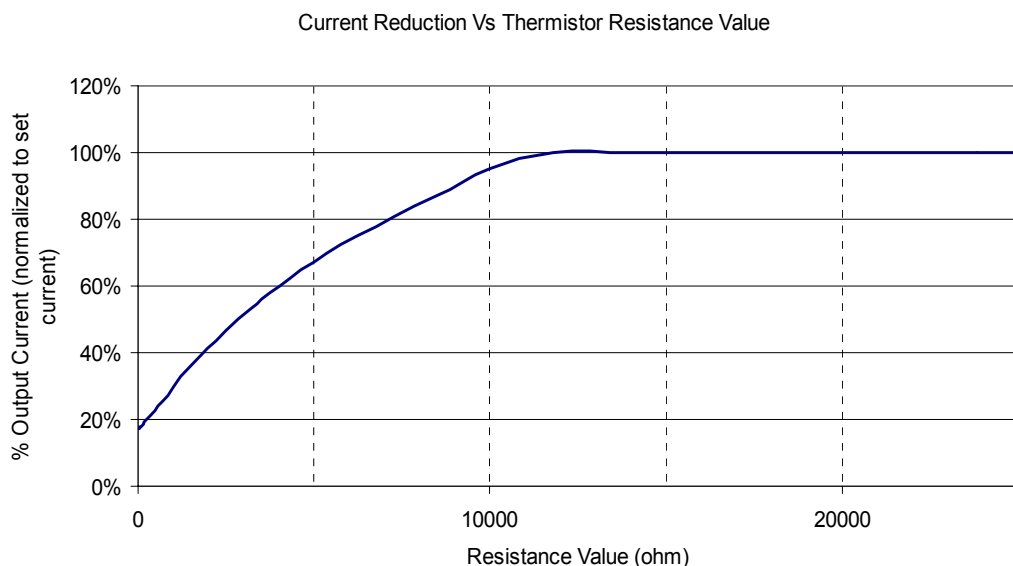
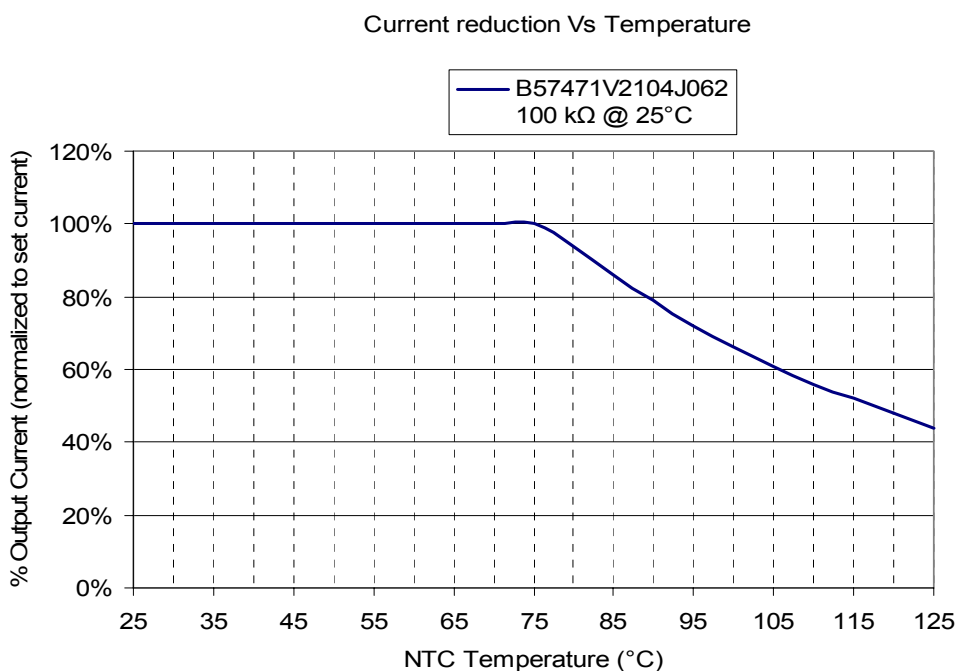
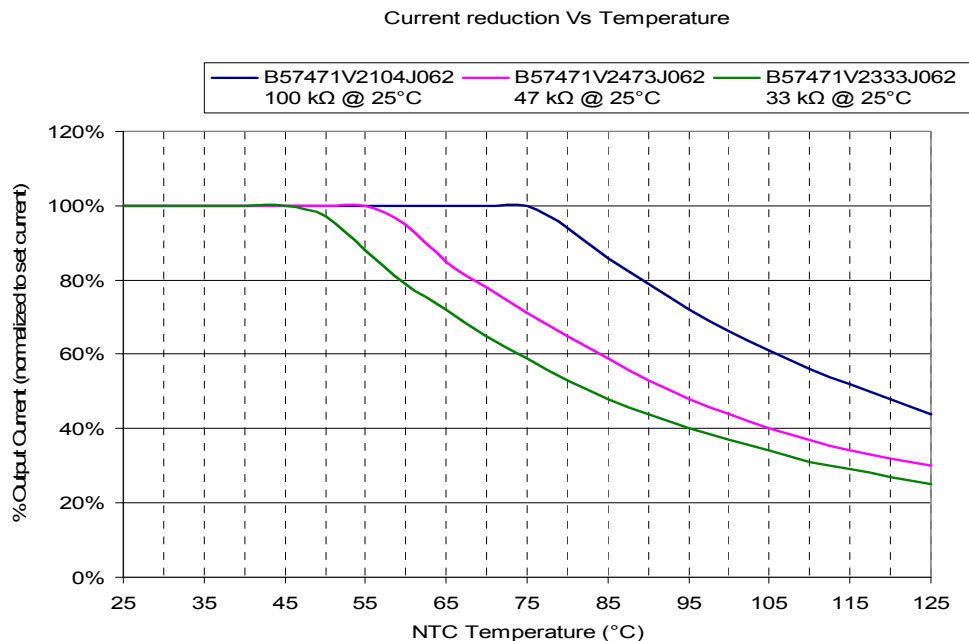

Figure 4: Output Current (%) along Thermistor (NTC) Resistance Value
Figure 5: Output Current (%) along NTC Temperature
Figure 6: Output Current (%) along Temperature, by using different NTC Thermistors (Epcos)
According to Figure 4, when the Over Temperature Condition is removed, the Output current comes back gradually to its original Value ($I_{out}=100\% I_{set}$).
Figure 4 shows that the Output Current reduction starts when the NTC resistance measured by Ozone is around 10k Ω . This is the key parameter to take in consideration to choose the more appropriate NTC to realize the required Current Reduction behavior.
Here below you can find some examples that use SMD NTC devices produced by Epcos; of course Epcos Codes mentioned are only for a design reference. In fact different Epcos codes or NTC produced by other manufacturers can be used and the diagram of the Current Reduction Vs NTC Temperature (see Figures 5 and 6) is always obtained starting from Figure 4 and considering the R(T) characteristic of the chosen thermistor.
Ozone design produces a knee in the output current regulation at approximately 75°C when it operates with the Epcos Code B57471V2104J062 (100 k Ω @ 25°C) as shown in Figure 5.
The graphic represented in Figure 5 refers to the current reduction caused only by the LED Over Temperature protection. The effect of the current reduction due to dimming is excluded (Dimming=100%).
The graph depicted in Figure 4 can be used to determine the required resistance characteristics of alternate NTC resistors; the general rule that comes from it is that if a knee at lower temperature is required, then the resistance value @25°C has to be reduced, whereas if a knee with a higher temperature is admitted then the R_{25} value has to be increased.
For example the Figure 6 shows the different curves depending on different NTC used. Starting from the NTC used in the Figure 5 (B57471V2104J062 (100k Ω @ 25°C), if a lower maximum PCB temperature is required, a NTC with lower R_{25} has to be used.
For example, the Epcos NTC code B57471V2473J062 (47k Ω @25°C) produces a curve with a knee at around 55°C; the device code B57471V2333J062 (33 k Ω @25°C) produces a curve with a knee at around 45°C and so on, as shown in the Figure 6 below.
The graphics showed in the Figure 6 refer to the current reduction caused only by the LED Over Temperature protection. The effect of the current reduction due to dimming is excluded (Dimming=100%).
The method explained above that allows to obtain the Current Reduction Vs NTC Temperature diagram (see Figures 5 and 6) is valid regardless of the NTC used.